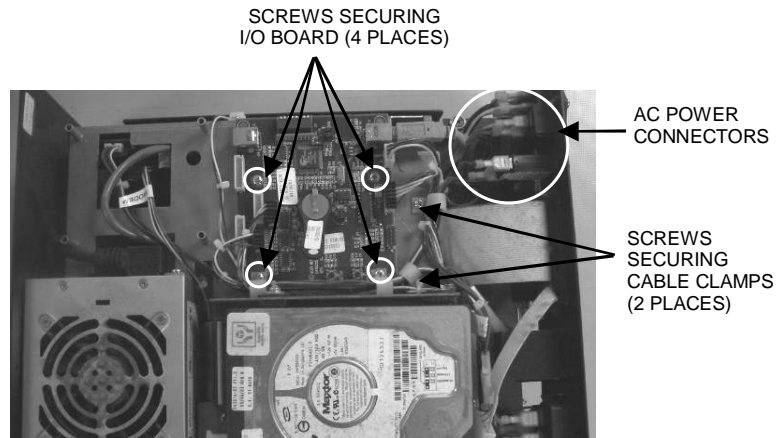

FIGURE 18 - ORIGINAL I/O BOARD IN VIBE GAME
3. Disconnect all of the harnesses from the I/O board, taking note of their positions so that you can connect them to the new board. See Figure 18.
4. Remove the 4 screws securing the I/O board and remove the I/O board from the game. See Figure 18.
5. Remove the 2 screws securing the cable clamps located to the right of the now-absent board, and set the screws aside. Free any cables from the clamps, and set the clamps aside. See Figure 18.